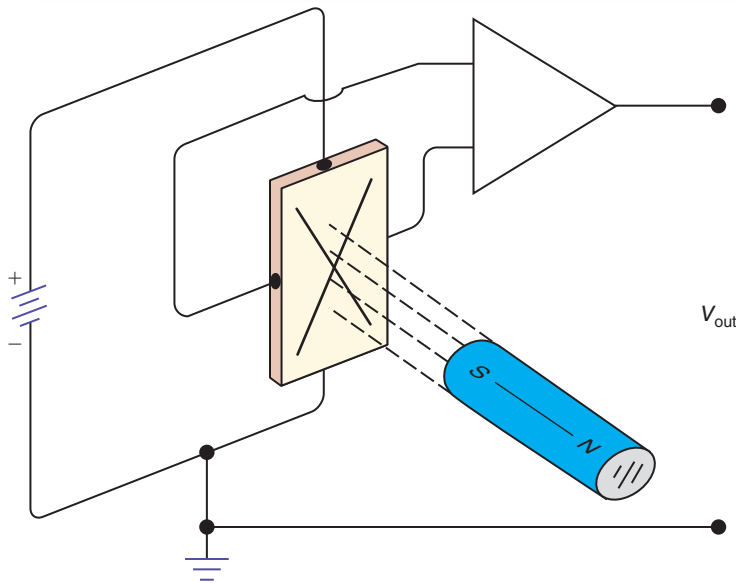

Fig. 5-50 Art for chapter review questions 5-64, 5-65, and 5-69.
- 5-64. Refer to Fig. 5-50. The sections of this Hall-effect device are the Hall-effect sensor, the bias battery, and a _____ (dc amplifier, multiplexer).
- 5-65. Refer to Fig. 5-50. Moving the magnet closer to the Hall-effect sensor increases the strength of the magnetic field which causes the output voltage to _____ (decrease, increase).
- 5-69. Refer to Fig. 5-50. The output of this device is _____ (analog, digital) in nature.